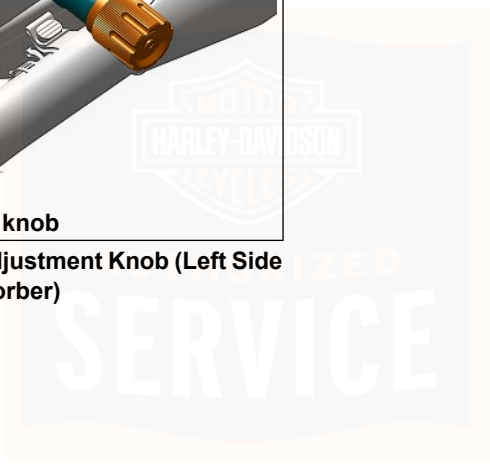

**Figure 13. Threaded Adjuster (Right Side Shock Absorber)**
5. See Figure 13. Using the provided spanner wrench, turn the lock ring (1) on right shock counterclockwise (CCW) to minimum (MIN).
6. Turn the adjustment ring (2) clockwise (CW) until the distance from the top of the adjustment ring to the bottom of the lock ring (in mm) matches the calculated preload distance determined in steps 3 and 4, above.